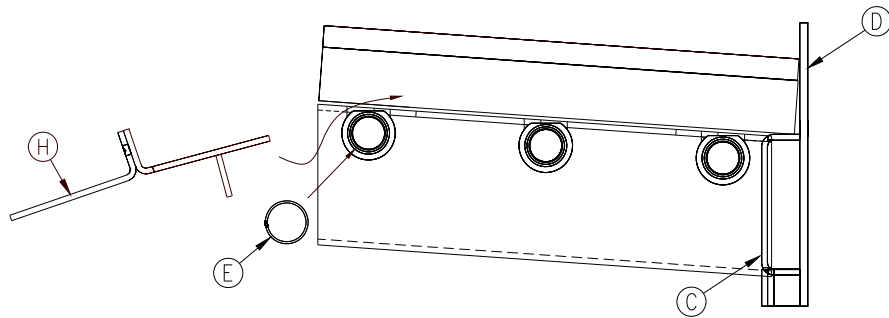

Figure 4.4c
3. Install the baffle support/extension (H) ensuring that it fits between the front risers and hold it in place. Install the front secondary air tube as show in figure 3.4c ensuring air holes face forward. Install the cotter pins as in fig 4.4c. Installing the front secondary air tube (E) will stabilize baffle assembly during the next step.